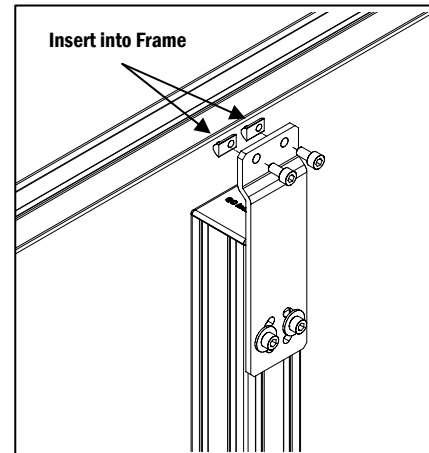

Figure 4
b. Insert the Drop In Nuts into the T-Slot in the conveyor frame. Line up the stand assembly brackets to the Drop In Nuts, insert the M6 Socket head Cap Screws through the bracket and fasten the stand to the frame (**Figure 4**).